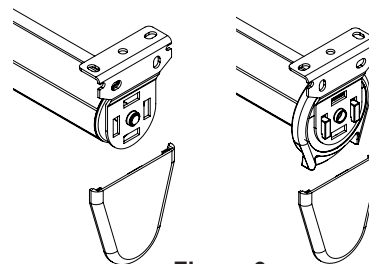

Figure 9. Bracket Covers
Step 8. See **Figure 9.** Slide the bracket covers onto the brackets.